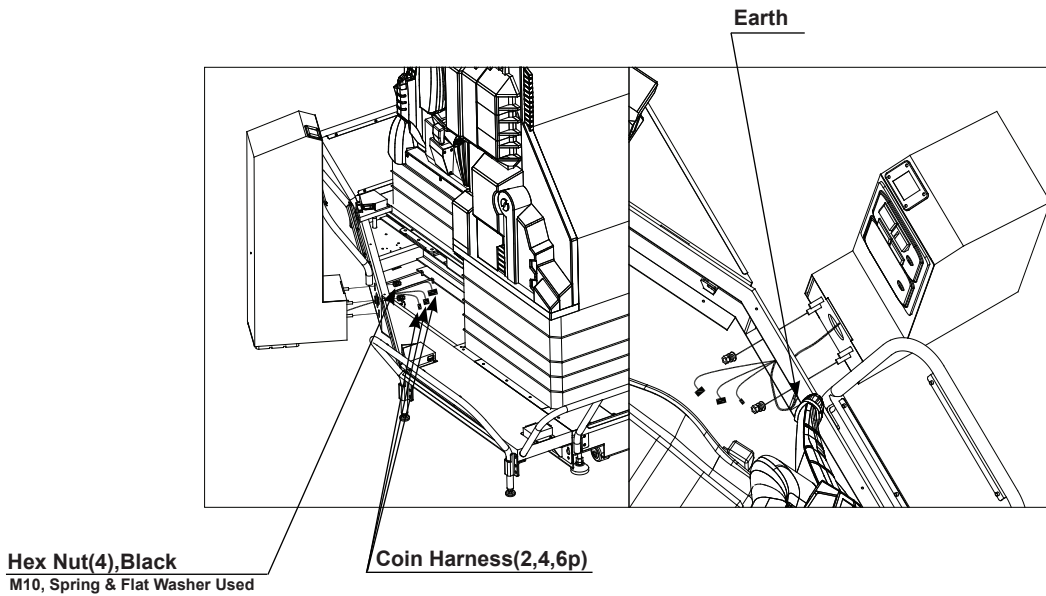

FIG. 6-4-2c
**3** Fix the position of the Coin chute Tower as displayed in FIG. 6-4-2c, push the Coin Harness into the unit, and fasten it in place with 4 HEX Nut ,M10 ,Spring & Flat Washers.